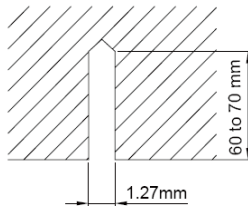

Fig.6
- (2). Install the bolts to the ceiling at a place strong enough to hang the unit. Mark the bolt positions from the installation template. With a concrete drill, drill for 12.7mm (1/2") diameter holes. (Fig.6)